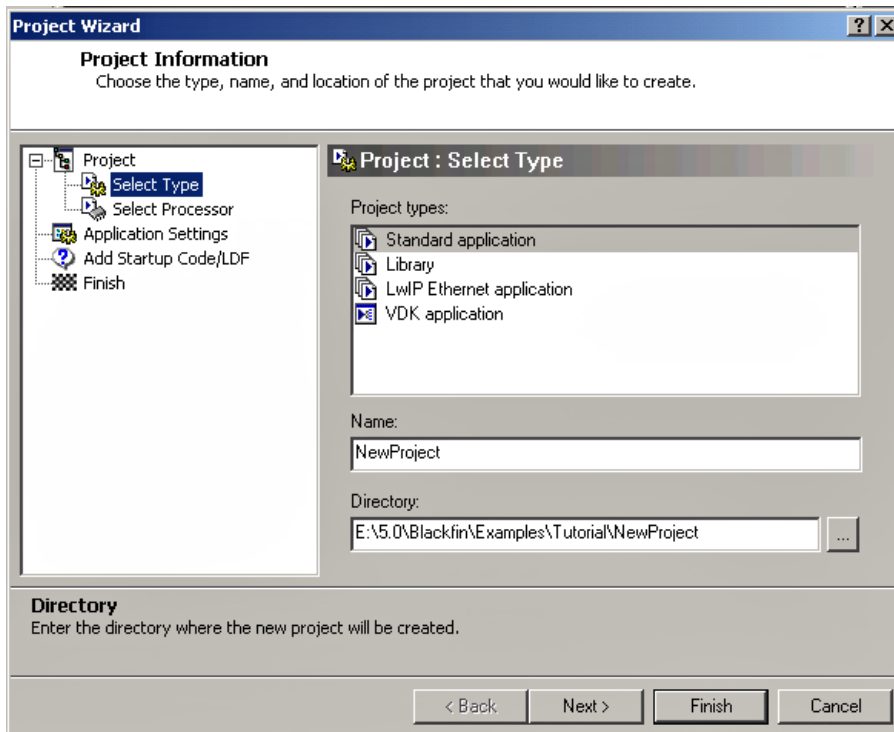

Figure 2-11. Project Wizard – Select Type Page
2. From the **File** menu, choose **New** and then **Project** to open the **Project Wizard**, shown in Figure 2-11.